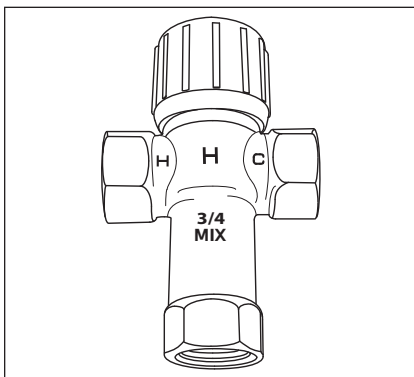

Figure 8 - Thermostatic Mixing Valves installed at each point-of-use can help prevent scalds.
- Point-of-use Thermostatic Mixing Valves (Figure 8 on page 8)
Install Thermostatic Mixing Valves (Figure 8) to regulate the temperature of the water supplied to each point-of-use (for example, the kitchen sink, bathroom sink, bath and shower). Consult the valve manufacturer's instructions or a qualified person.
⚠ WARNING! Even if the water heater thermostat is set to a relatively low temperature, hot water can scald. Install Thermostatic Mixing Valves at each point-of-use to reduce the risk of scalding (see page 4 and Figure 8).